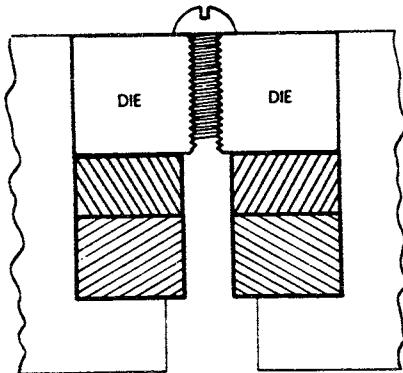

FIG. 35
- To roll threads up to a head (Fig. 35). Filler blocks are placed under the die to bring the die level with the top of the die pocket and the feeding mechanism.